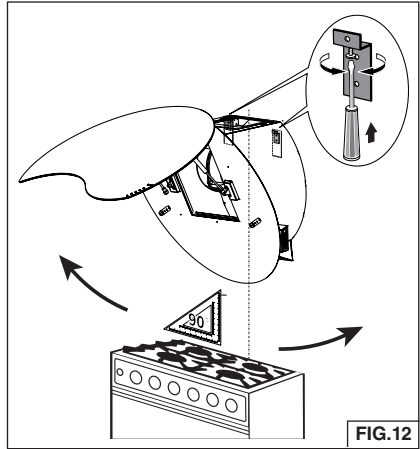

FIG.12
6. Level the hood using (2) screws provided on mounting brackets. Fig. 12.